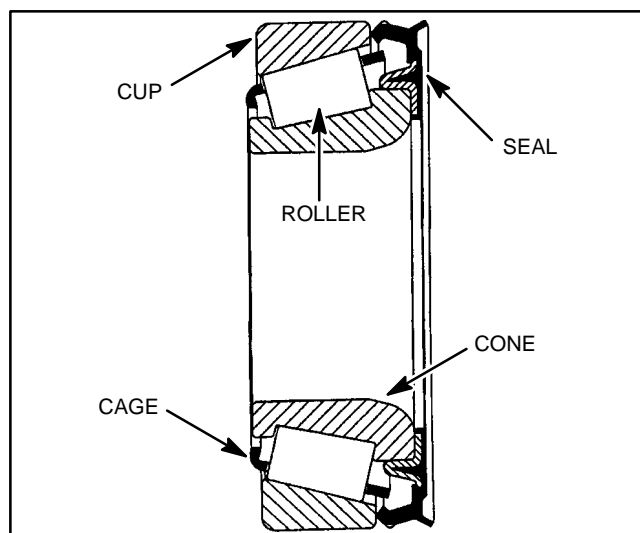

Figure 4
**IMPORTANT:** If any part of a bearing (14) needs replacement, replace bearings as a matched set.
1. If foreign material is in the bearing, clean bearing and determine cause of the material. Replace bearings (14) if any of the following conditions occur (Fig. 4):